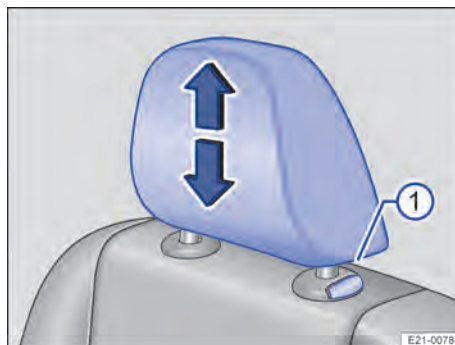

Fig. 73 On the rear seats: removing the head restraint.
- Pull the head restraint out fully while pressing the button → Fig. 73 ①.